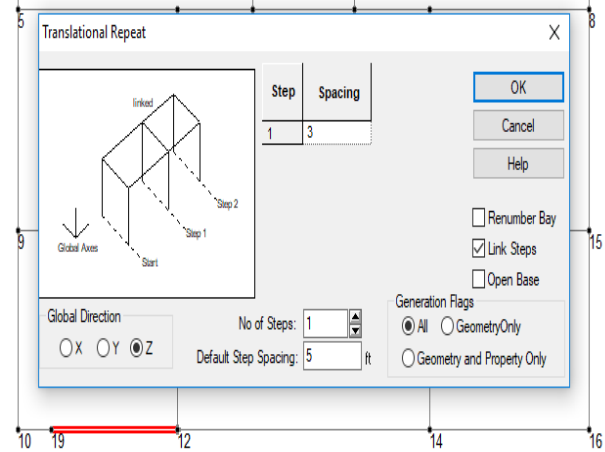

Fig. 5.9
- 1.2.6 Again select the beam from node no 12 to 19 by using beams cursor → Geometry → Translational Repeat → Select Global Direction = Z → No of Steps = 1 → now write down the now write down the Veranda width as (Step1 = 3) → Click on Link Steps → OK (Figure: 5.9). And similarly create another Veranda.